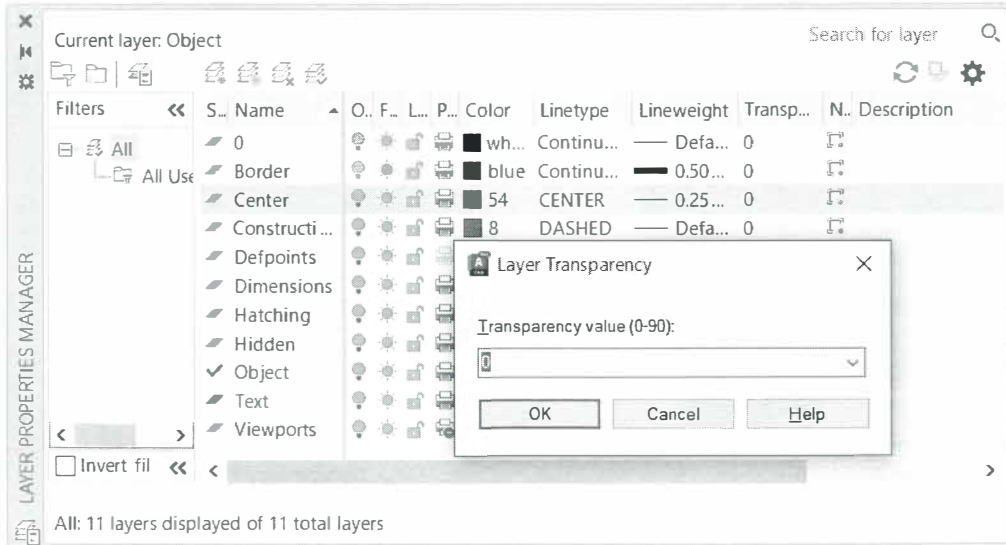

Figure 1–28
- Transparency can be set for **Match Properties**, as shown in Figure 1–29, and for **Quick Select and Filter**.